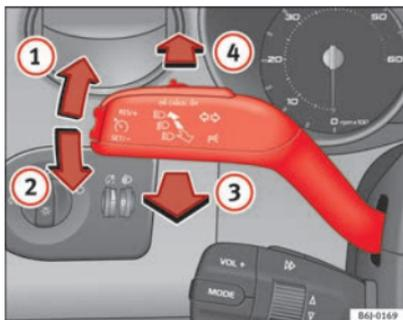

Fig. 60 Turn signal and main beam headlight lever
- Move the lever all the way up  $\Rightarrow$  fig. 60 ① to indicate **right**, and all the way down ② to indicate **left**.
- Press the lever forward  $\Rightarrow$  fig. 60 ④ to switch on the main beams.